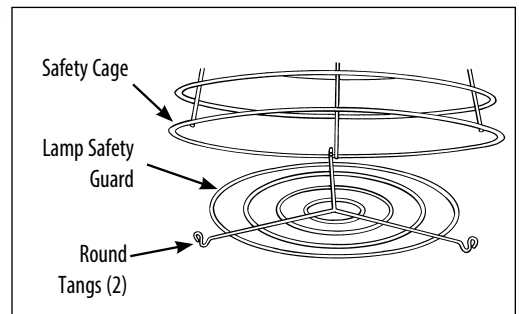

Figure 3. Installing, opening, and closing the Lamp Safety Guard.
2. Place the Lamp Safety Guard on a flat surface. Locate the three (3) contact points on the Lamp Safety Guard, two closed-loop round tangs and one (1) round hook. They should be facing upward. Connect the round hook onto the bottom section of the Lamp Safety Guard as shown in Figure 3. The Enshroud should swing downward but still remain attached to the Lamp Safety Guard by the round hook.